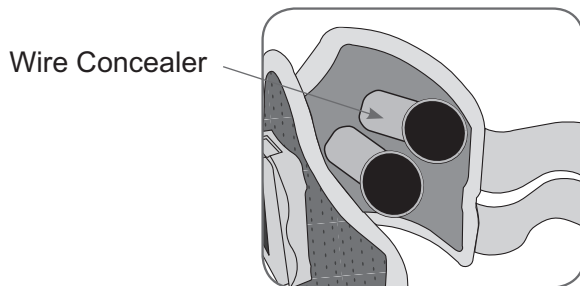

Figure 9-11: Wire concealers covering the L300 electrode base wires.
6. Cover the wires and snaps with wire concealers (not included), if desired. See Figure 9-11. Press on the wire concealers to attach them to the L300 FS Cuff liner.